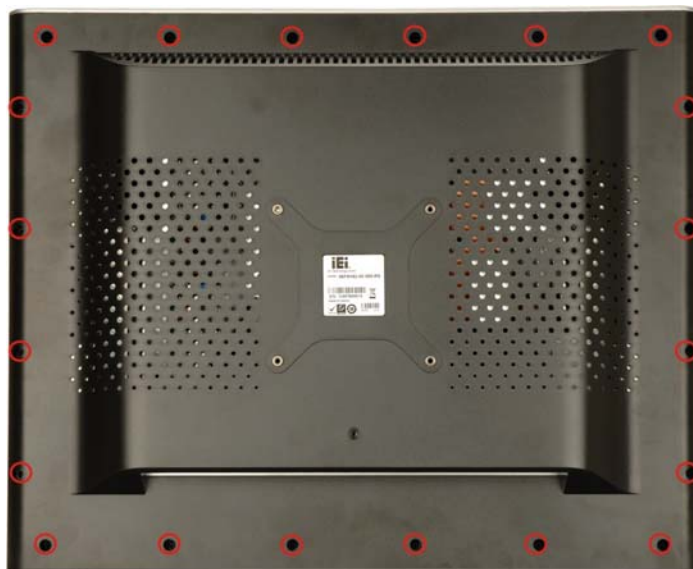

Figure 3-1: Back Cover Retention Screws
Step 1: Remove the retention screws (**Figure 3-1**) and lift the cover off the flat panel PC.